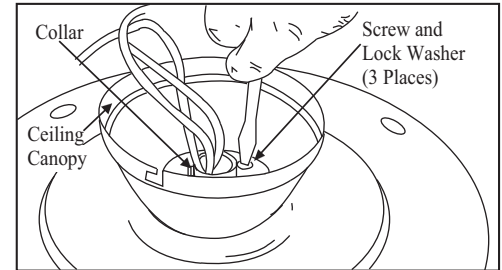

Figure 10
4. Route the wires exiting the top of the fan motor through the canopy, then proceed to place the ceiling canopy over the collar at the top of the motor. (Figure 10)
5. Align the mounting holes with the holes in the motor and fasten using the screws and lock washers removed in step 3 (Fig. 10).